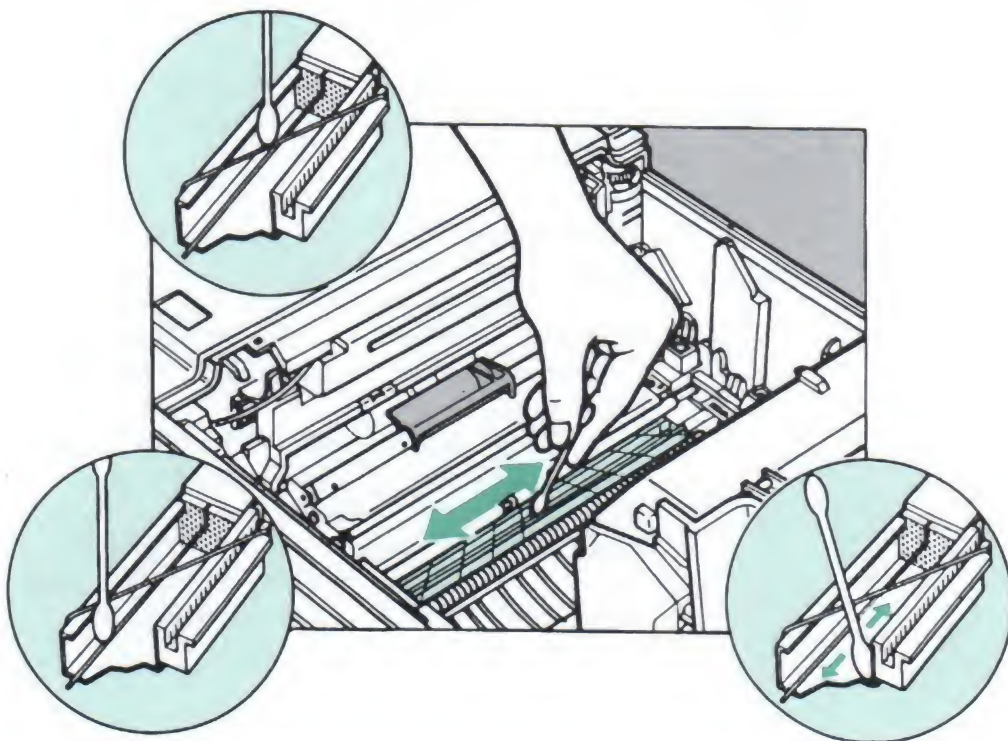

Figure 6-7. Cleaning the Transfer Corona Wire Area
4. Clean the entire transfer corona wire top, bottom and sides (along the length) with the clean cotton swab until no residue remains. (Refer to Figure 6-7.)